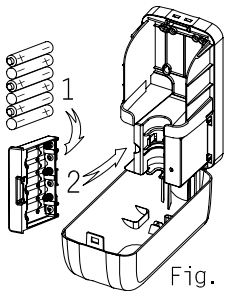

Fig. 6
4. Remove the battery cartridge, load 6 pcs Alkaline AA 1.5V batteries into it, put it back into the unit and close cover. LED should flash 4 times to indicate proper operation. (Fig. 6&7) (If LED does not stop flashing, this indicates an obstacle in the sensing range and needs to be removed)
3. When batteries are low, LED will stay constantly lit. The dispenser cannot operate at this time. Replace 6 pcs. Alkaline AA batteries. Do not mix fresh batteries with old ones. (Fig. 6)